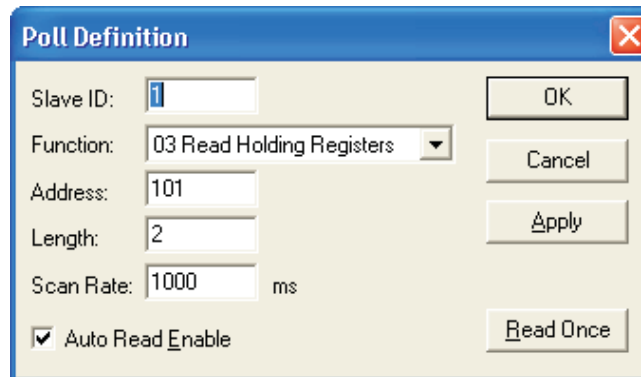

Figure 6. Poll Settings Setup
- Configure Modbus Poll by setting Slave ID, Function ID, number of registers to be read and start address (as shown in Figure 6). These values depend on connected Modbus Serial devices. For Slave ID and Start addresses of the registers, see the device-specific documentation.